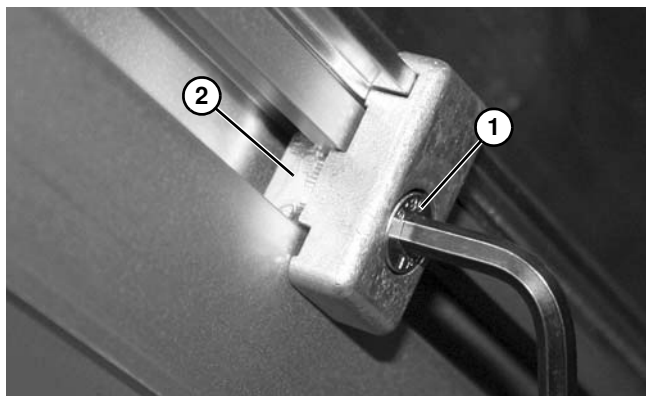

Figure 34
- Tighten screw (**Figure 34, item 1**) making sure t-nut (**Figure 34, item 2**) rotates and engages inside of t-slot.